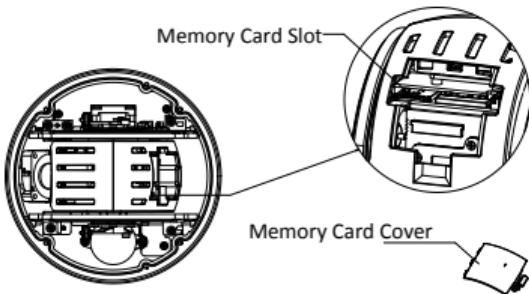
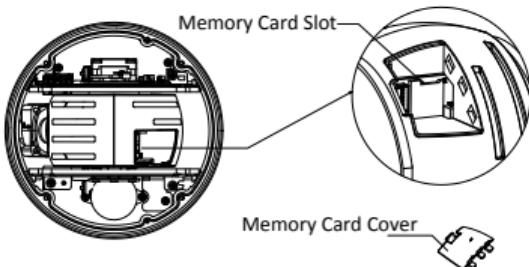

Figure 2-7 For 20x Camera Module
Figure 2-8 For 4x Camera Module
3. Open the memory card cover and insert the memory card into the card slot as shown in Figure 2-7 and Figure 2-8.